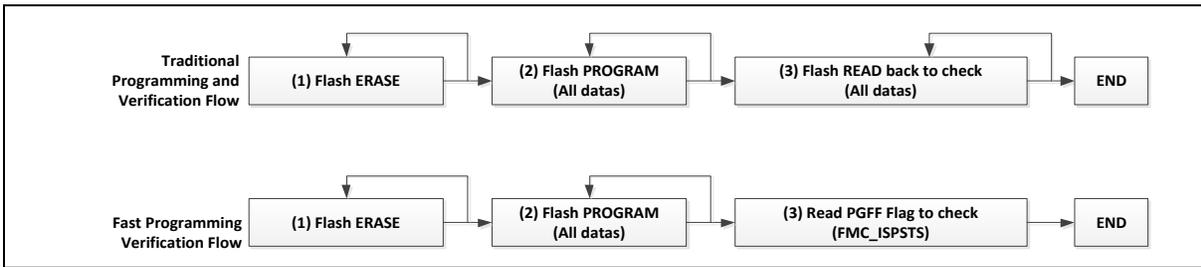

Figure 6.7-19 Verification Flow
In traditional Flash updated operation, the Flash memory has to perform three steps to complete the Flash memory updated procedure, (1) Flash ERASE (2) Flash PROGRAM (3) Flash READ back all of data to check the correction. In NuMicro[®] M2351 series, it only reads FMC_ISPSTS to check PGFF flag in Step (3) without reading data back to confirm. Figure 6.7-19 compares traditional programming verification flow and fast programming verification flow.